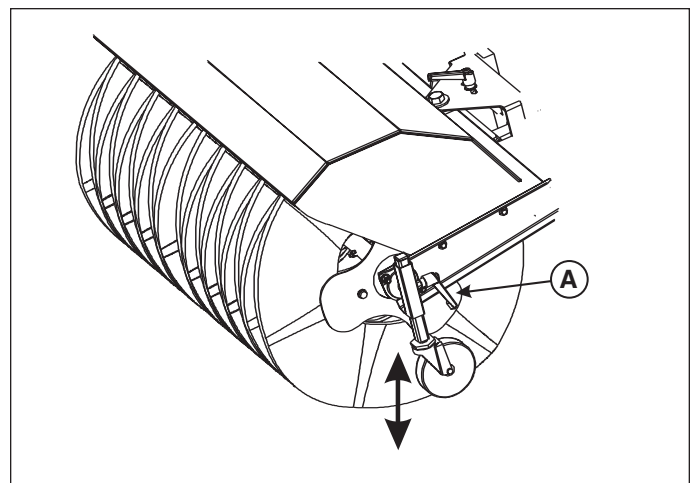

Figure 5. Caster Adjustment
- a) Loosen the caster wheel lock lever. (See A, Figure 5)